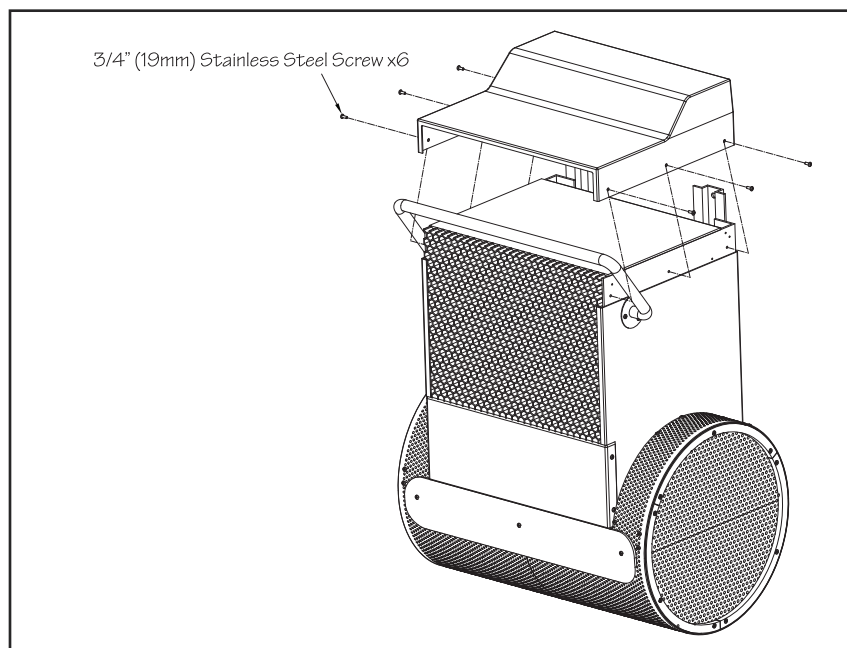

Fig. 6.12
- 6.14 Once the Fastlane is installed in the pool, place the housing lid onto the housing and use the provided screws to attach. There will be three screws per side, for a total of six (Fig 6.12).
- 9.6 Place the Fastlane lid onto the top of the Fastlane and use the six 3/4" (19mm) stainless steel screws that were provided (3 on each side) (See Fig 6.12).